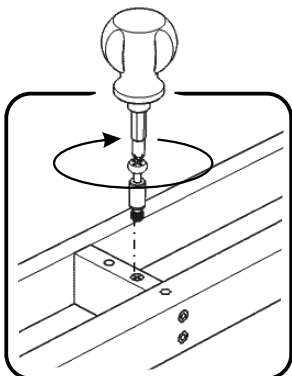

Figure 1
Insert Cam Lock Screw into pre-drilled hole in Front Frame (D). (See Figure 1)